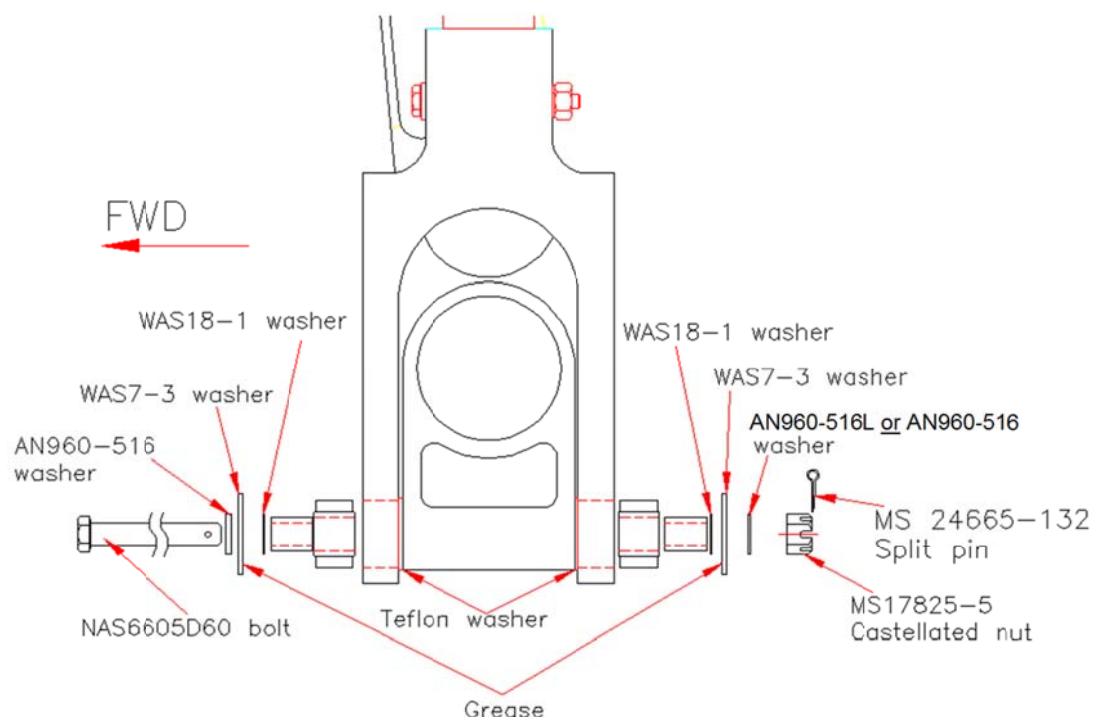

FIGURE 3 RE INSTALLATION – HARDWARE
- a) Open the inner diameter of the P/N AN970-4 washer with a 5/16" drill. (Refer WAS7-3 washer in Figure 3, refer to the attached drawing). The WAS18-1 washers may also be fabricated IAW the attached drawing.
- b) Apply AeroShell 22 grease (or any grease product that meet MIL-PRF-81322) to the drilled surface and the inner face of the AN970 washers (See Figure 3).
- c) Re-install all parts, according to the sequence shown in Figure 3. Torque nut to 100 - 140 lb.in, before installing the split pin.